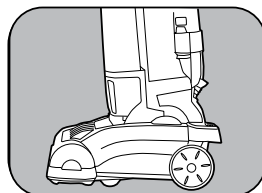

Fig. 4
3. Push the handle to the upright position for storage or when cleaning tools are used (Fig. 4). The handle locks in this position.